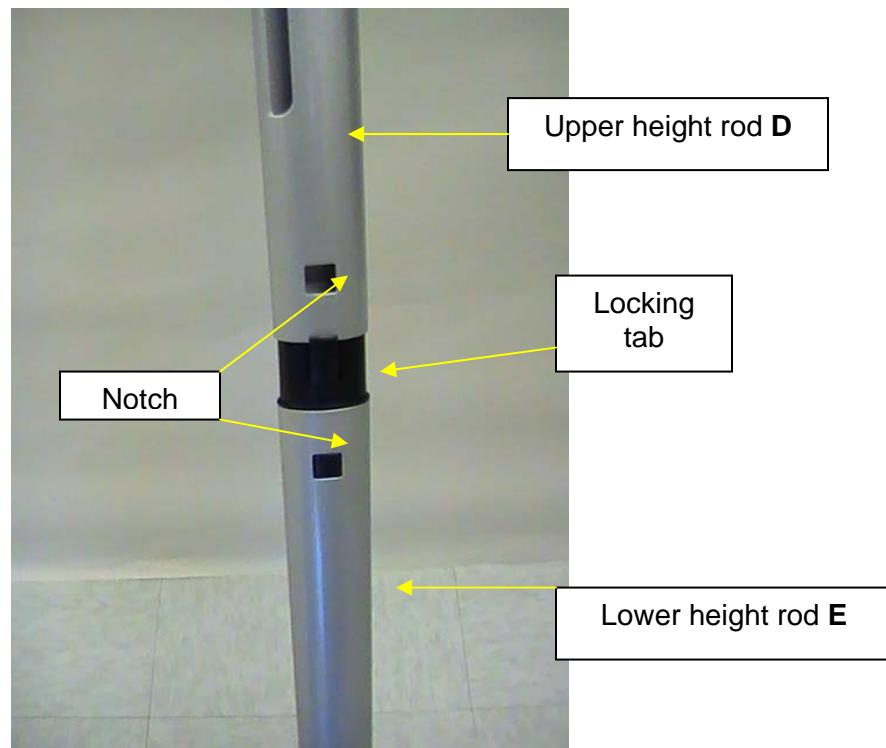

Figure 8
11. Align the upper height rod **D** with the lower height rod **E**. Snap the locking tab into place. Ensure locking tab is securely locked (see Figures 8 & 9).